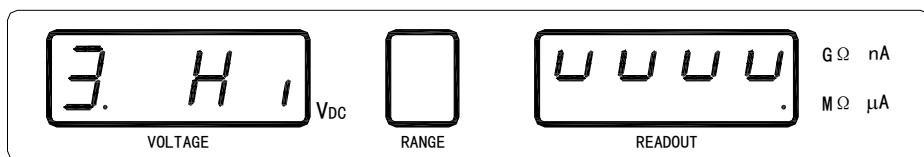

Figure 3-6 High Limit Setup
- 2) Press **▲** or **▼** key to scroll through the main setup items, until “3. HI” is blinking in the voltage window as shown in the following figure 3-6.